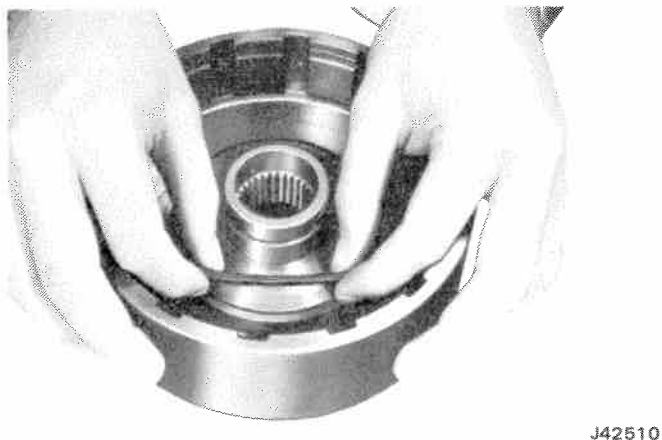

Fig. 7-80 Installing Center Seal in Direct Clutch Housing
(3) Install a new center seal in clutch housing, with lip of seal facing upward (fig. 7-80).